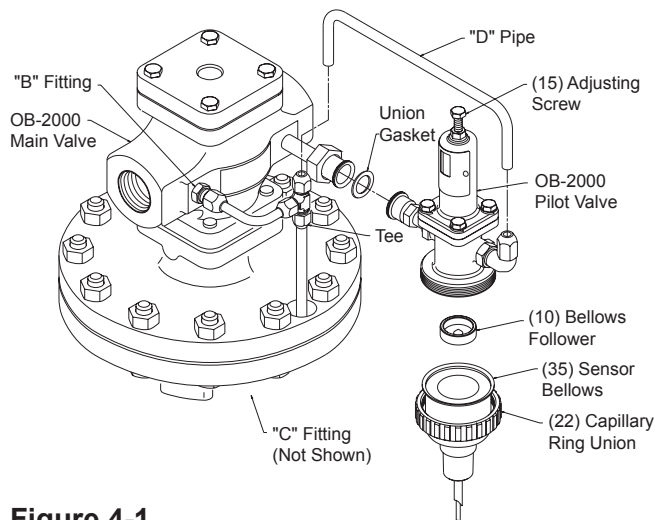

Figure 4-1
1. After the pilot body has been installed, install the capillary system. See Figure 5-1 on Page 5. Be sure to insert bellows follower (10) as shown in Figure 4-1.
2. Thermal bulb (23) may be installed in any position. However, care should be taken so that at least three quarters of the thermal bulb is touching the heated fluid or air flow.
2. Turn the adjusting screw (15) and align the gauge needle with the required temperature position on the dial. See Figure 4-1 and Table 5-1. Temperature will rise when turning clockwise (right) and temperature will fall when handle is turned counterclockwise (left).
1. Remove hexagonal bolts (38) from main valve cover (26) and remove cover from body (1).
2. Remove main valve spring (13) and the main valve (6).
3. Use a special socket up from the bottom of valve body to remove main valve seat (7).
4. Disconnect all tubing joints C, B and tee fitting. Reference Figure 4-1.
5. Remove all bolts (41) from diaphragm cases (4 and 5) separating both halves, remove diaphragm case, main diaphragms (12), retainer (11), and main spindle (9).